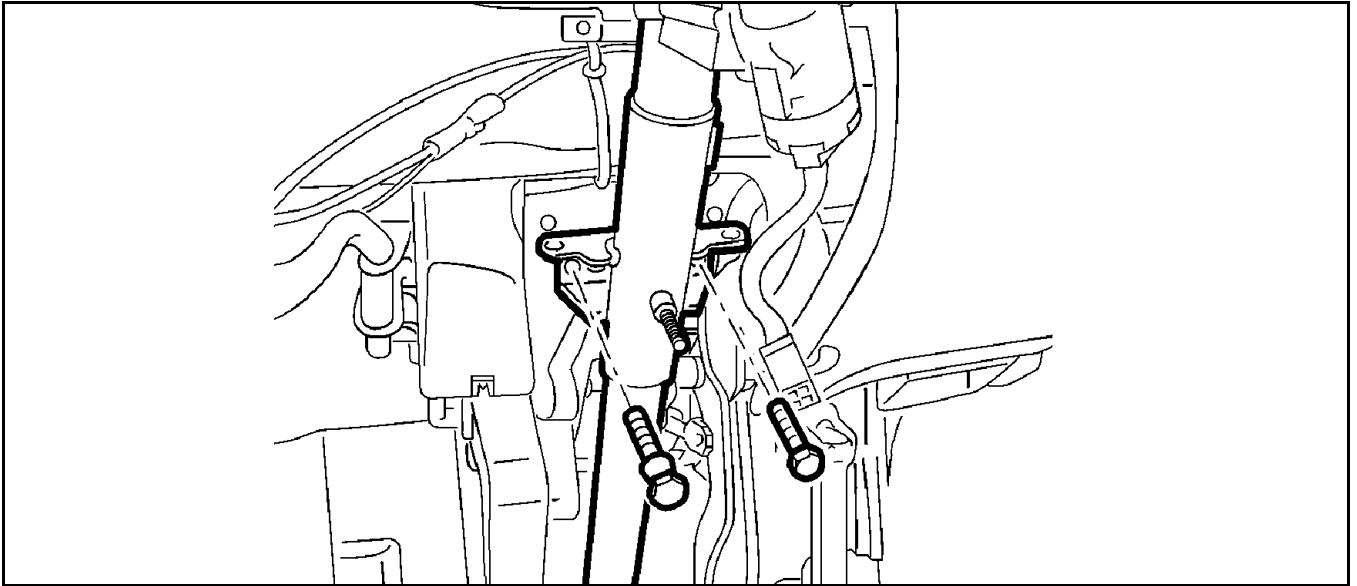

Figure 235 Removing Steering Column Bracket Bolts
6. Remove steering column bracket bolts (Figure 235).